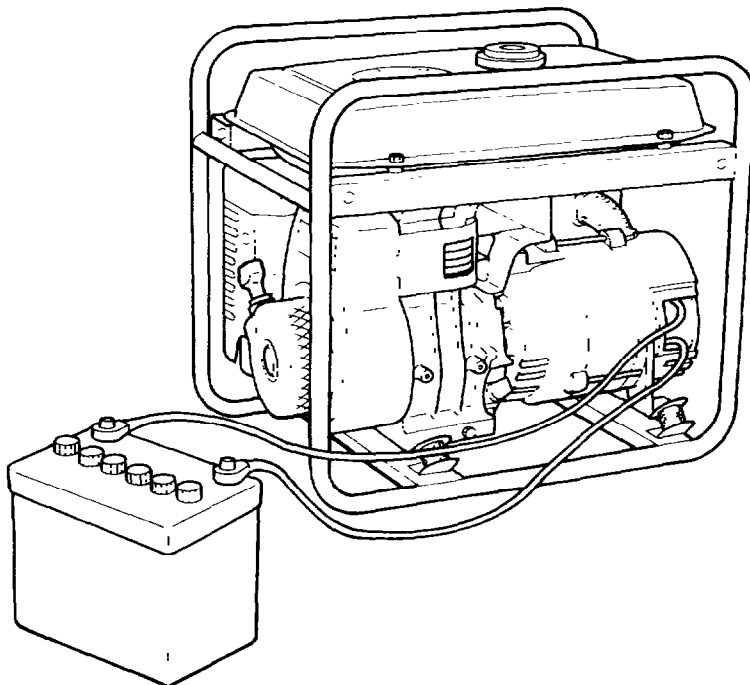

Fig. 9-13
- B. If no output voltage is generated by the test conducted as described in Step A., operate the generator at the rated rpm and momentarily connect a 12V battery to the brushes. The green lead is positive (+) and the black or brown lead negative (-) (See Fig. 9-13.). If output voltage is generated, the primary exciting circuit in the AVR is defective. Replace the AVR.